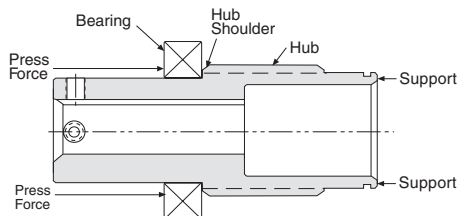

Figure 1
18. Install the inner adapter bearing (Item 4) onto the hub, (Item 6) **by pressing on the inner race of the bearing**. With the end of the hub supported as shown in Figure 1, press the bearing until its inner race locates against the hub shoulder.